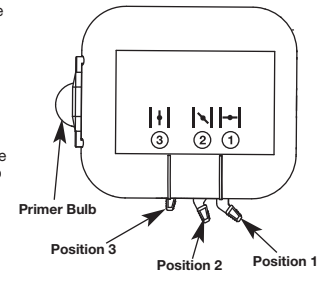

Fig. 12
4. Place the choke lever in **Position 1** (Fig. 12).
6. Place the choke lever in Position 2 (Fig. 12).
9. Place the choke lever in Position 3 (Fig. 12). The unit is ready for use.